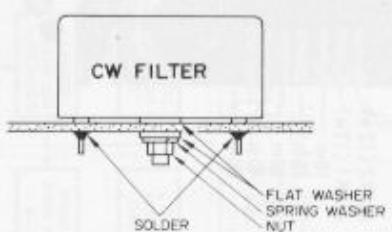

Fig. 4
- (4) Mount the CW filter in the position shown in Figure 4. Cut the two jumpers shown in the drawing when the CW filter is installed.
- (5) Replace the IF Unit and RF Unit into the transceiver. Replace the top cover of the transceiver. Installation is now complete. The CW filter will be selected when the MODE switch is set to CW-N, while the SSB filter will be selected when the MODE switch is set to CW-W.